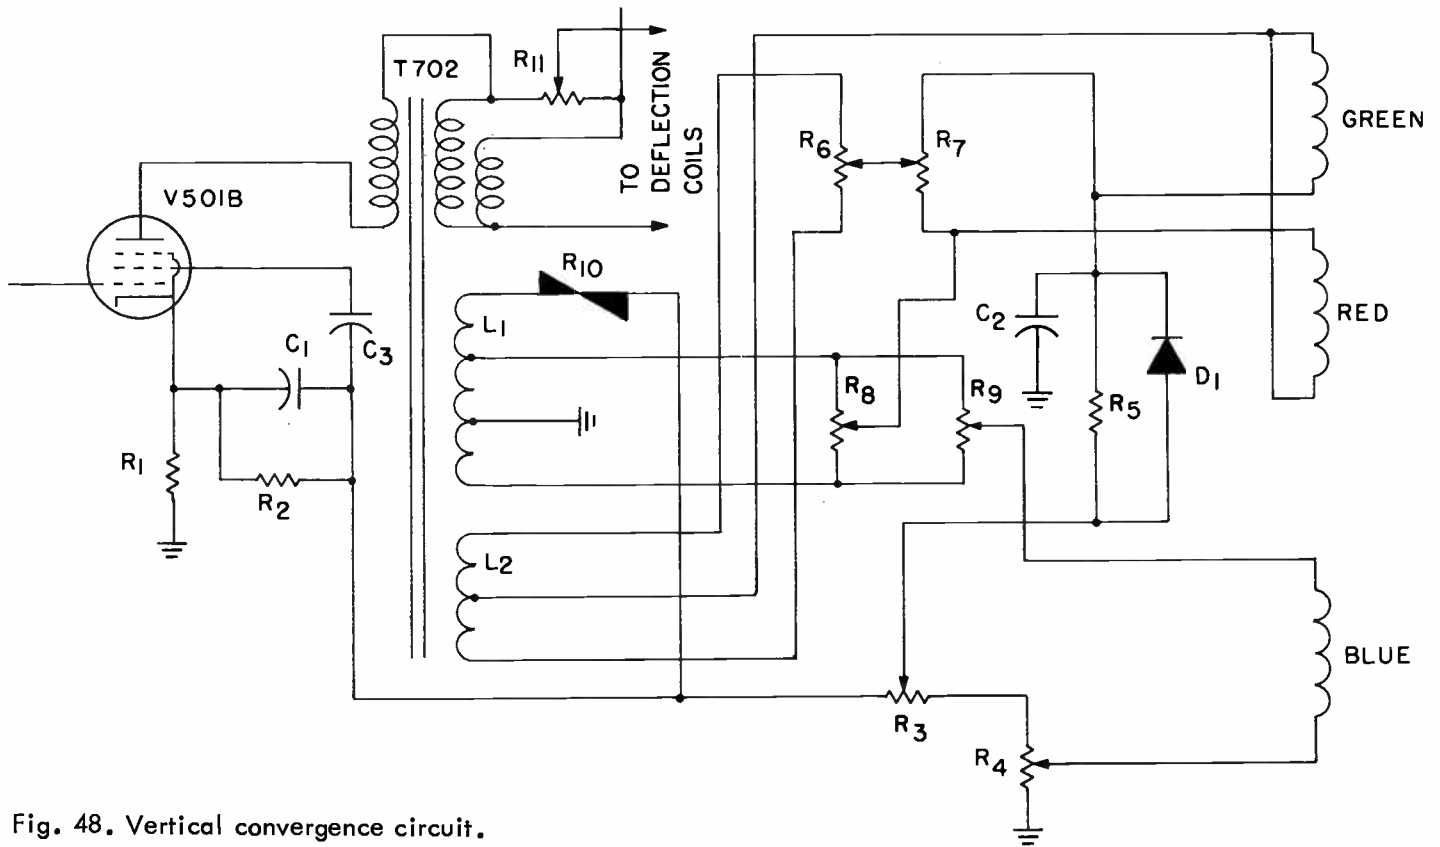
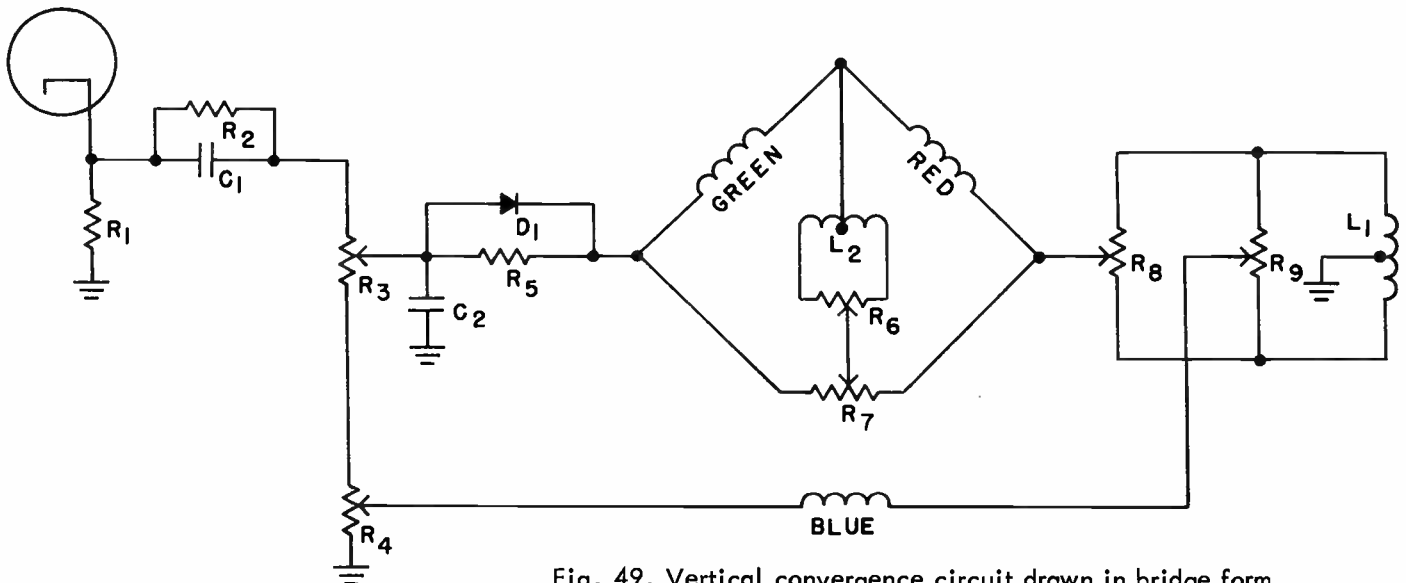

Fig. 48. Vertical convergence circuit.
Fig. 49. Vertical convergence circuit drawn in bridge form.
When you studied vertical sweep circuits in the circuit shown in Fig. 34 earlier in the lesson, there were a number of leads shown that went to the convergence board. We did not show the convergence circuit because at the time we were concentrating on the vertical sweep circuit. The vertical convergence circuit is shown in Fig. 48. This circuit looks quite formidable at first glance, but it can be redrawn in the form of a bridge as shown in Fig. 49.
The part numbers given in Fig. 48 and Fig. 49 are for the same parts so you can compare these two circuits. Notice that the winding L_1 on the transformer has a fourth connection that feeds to a voltage dependent resistor, R_{10} . We have omitted this in Fig. 49 to simplify the drawing. Actually this simply feeds the signal to R_3 to help get the correct waveform from the cathode of the vertical output tube.
In the circuits shown in Fig. 48 and Fig. 49, R_6 is used to correct the displacement of the two horizontal lines at the top of the picture and R_7 the displacement at the bottom. The procedure is to adjust R_6 first; this changes the current from L_2 and feeds part of it through the red and green coils. Next, changing the setting of R_7 affects the amount of signal from L_2 plus the amount from the cathode of the rectifier and L_1
R_4 in Fig. 49 is the blue vertical amplitude adjustment and R_9 is the blue vertical tilt adjustment. R_4 is adjusted to give you equal displacement of the blue lines in the center of the screen, as shown in Fig. 52A. The tilt adjustment, R_9 , is made to give you equal displacement of the blue lines at the top and bottom of the screen, as shown in Fig. 52B. There is some interaction between the controls so after you have adjusted both, go back and adjust R_4 again and then readjust R_9 .
- (aj) What does R_3 in Fig. 48 control?
- (ak) What purpose does R_8 in Fig. 48 serve?